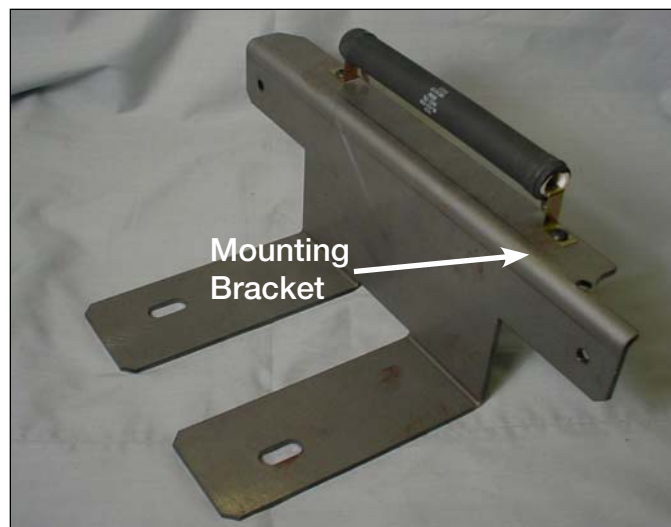
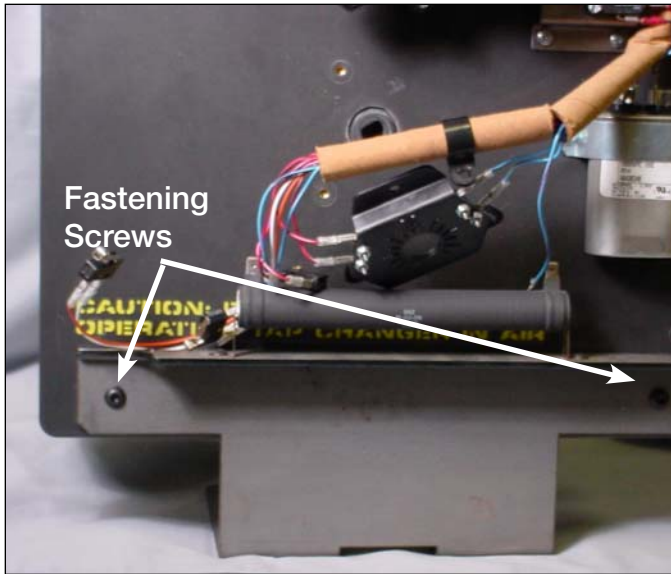

Figure 25.
Figure 26.
6. Place the mounting bracket, see Figure 25, to the base of the tap changer assembly and fasten with two pan head hex screw and tighten with a 5/32 Allen Wrench. See Figure 26.